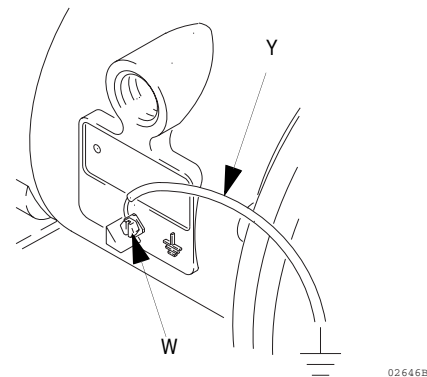

FIG. 1
- *Pump:* Connect a ground wire and clamp as shown in Fig. 1. Loosen the grounding screw (W). Insert one end of a 12 ga (1.5 mm2) minimum ground wire (Y) behind the grounding screw and tighten the screw securely. Connect the clamp end of the ground wire to a true earth ground. Order Part No. 222011 Ground Wire and Clamp.